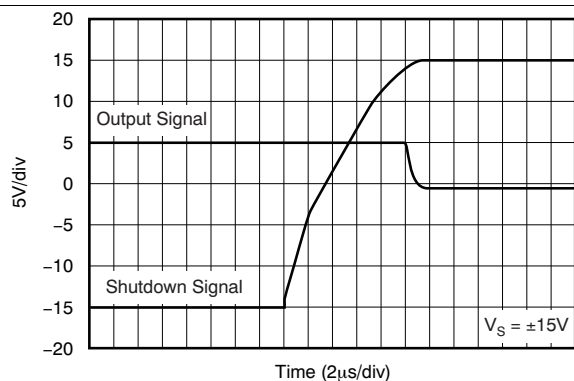

Figure 39. Turnoff Transient
(1) When disabled, the output assumes a high-impedance state.
(2) See Typical Characteristics curves, Figure 39 through Figure 41.
The shutdown (enable) function of the OPA211 is referenced to the positive supply voltage of the operational amplifier. A valid high disables the operational amplifier. A valid high is defined as (V+) – 0.35 V of the positive supply applied to the shutdown pin. A valid low is defined as (V+) – 3 V below the positive supply pin. For example, with V_{CC} at ±15 V, the device is enabled at or below 12 V. The device is disabled at or above 14.65 V. If dual or split power supplies are used, care should be taken to ensure the valid high or valid low input signals are properly referred to the positive supply voltage. This pin must be connected to a valid high or low voltage or driven, and not left open-circuit. The enable and disable times are provided in the Typical Characteristics section (see Figure 39 through Figure 41). When disabled, the output assumes a high-impedance state.